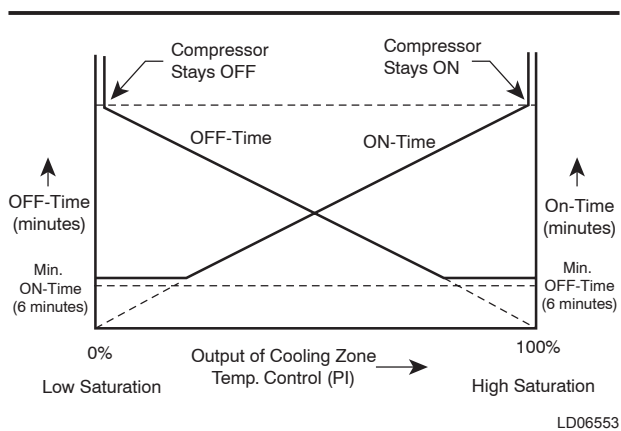

FIG. 22 – CV SPACE SENSOR COOLING ALGORITHM - ECONOMIZER NOT SUITABLE
The Space Sensor Cooling control algorithm is as illustrated in Figure 22.
- The output of the controller is used to calculate on and off time of the compressor most recently started based on the calculation method in Figure 22.
- The Space Sensor Stepped Heat control algorithm is as illustrated in Figure 22. The controller will read the number of Heat Steps parameter to determine the heat steps available. Heat steps will be used in number sequence.
- The output of the controller is used to calculate on and off time of the heat step most recently started based on the calculation method in Figure 22.